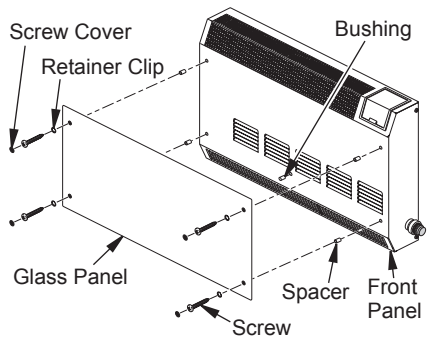

Figure 5 - Installing Glass Panel
3. Snap bushing into center front hole of front panel (see Figure 5).
5. Place spacers over 4 holes on front panel as shown in Figure 5.